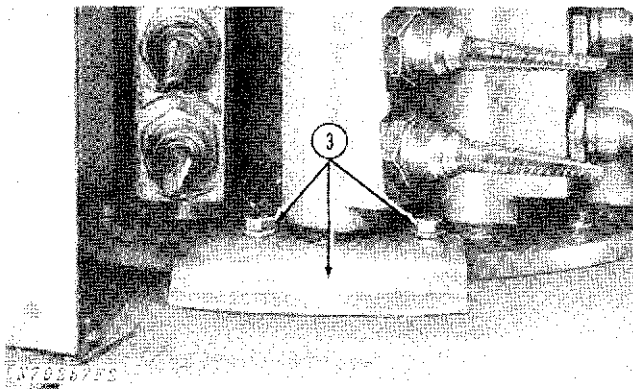
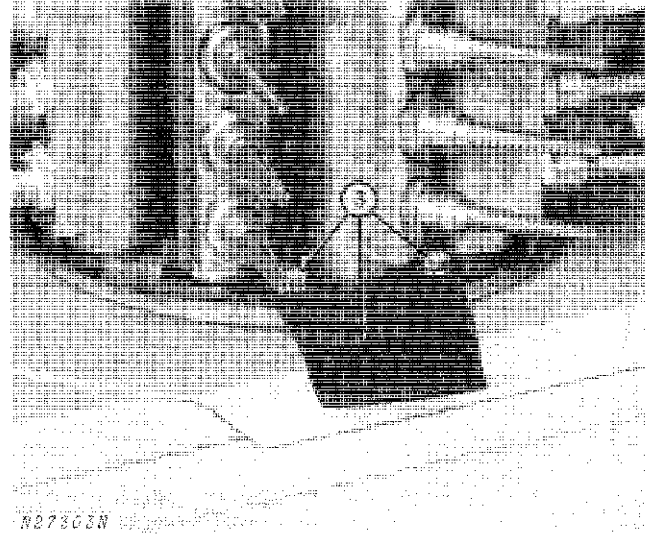

Fig. 48-Installing 16-Bar Radius Gauge
Fig. 49-Installing 12-Bar Radius Gauge
3. Remove the two picker bar pivot stud bolts and install the 16-bar radius gauge (Fig. 48) or 12-bar radius gauge (Fig. 49) with the offset portion of the gauge down. Tighten bolts.